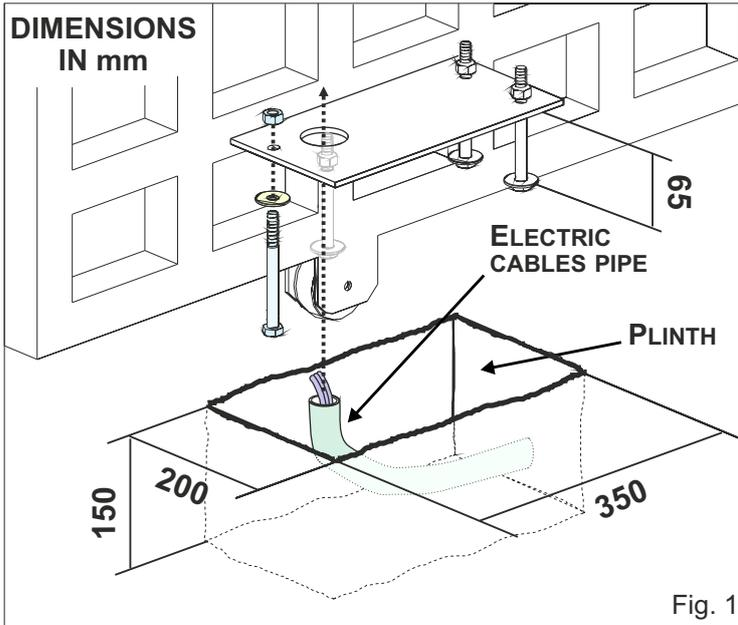

Fig. 1
2.1. Prepare a concrete basement according to the dimensions shown in Fig. 1; The foundation plate will be concreted inside the basement through the anchor bolts